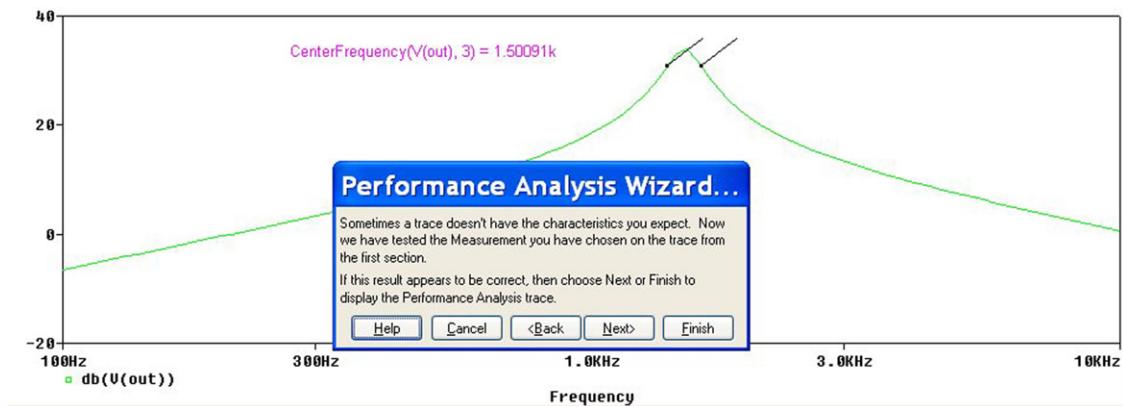

FIGURE 10.14
- The nominal trace waveform of the band pass circuit will be displayed (Figure 10.14). This is the simulation response using the component nominal values. The trace shows two points where the measurements from the waveform will be taken. In this case, the center frequency is defined at 3 dB down from the maximum value. This is shown so that you can confirm whether you are seeing the correct circuit response and that the measurements are taken at the correct points on the waveform.